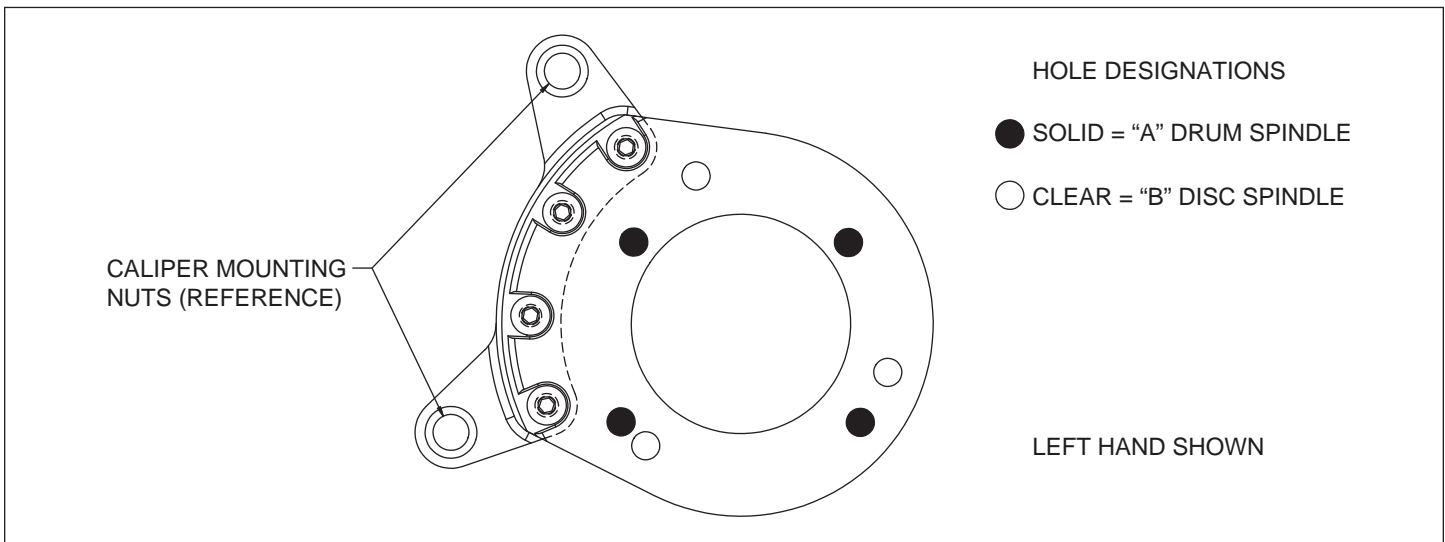
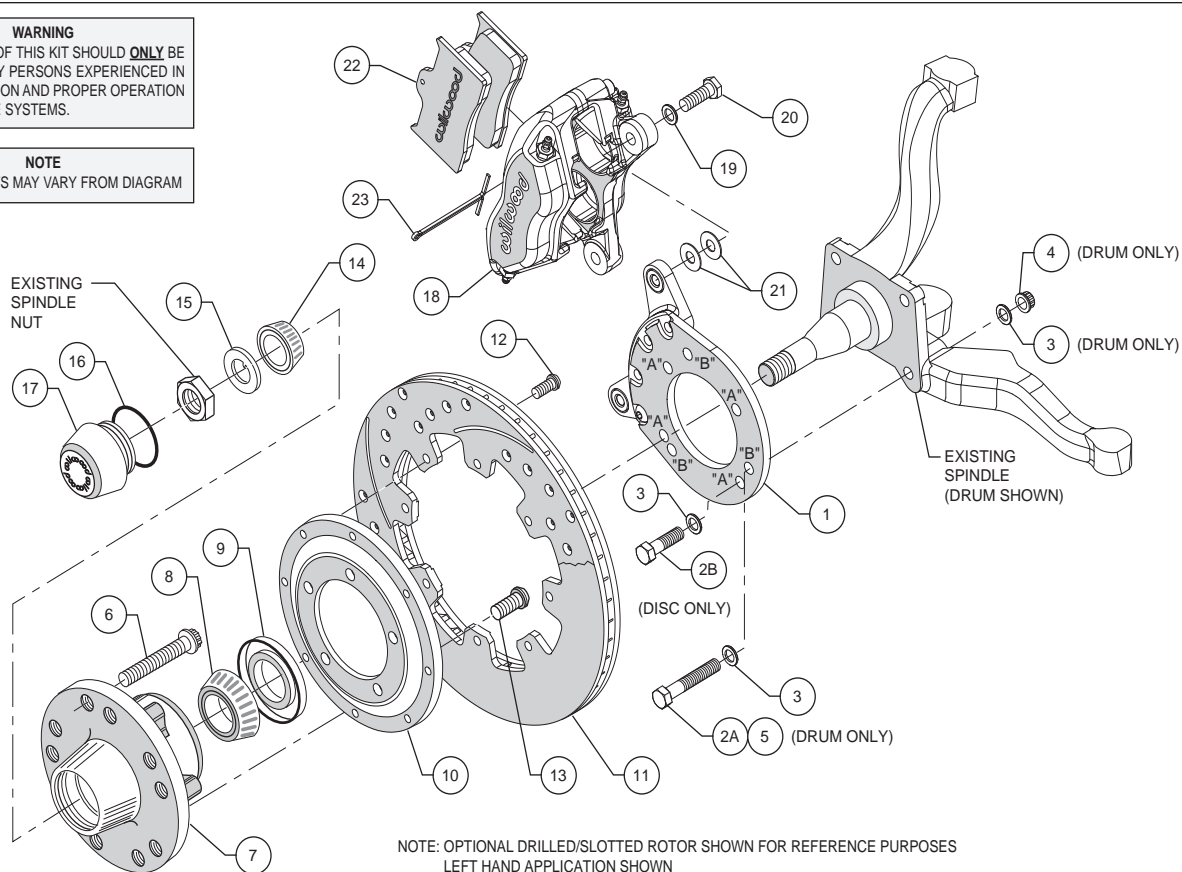
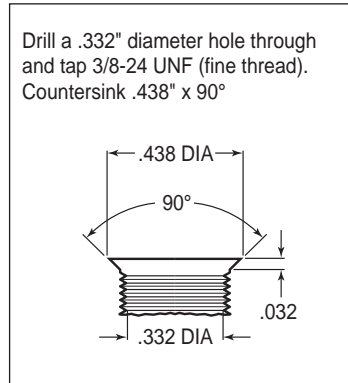
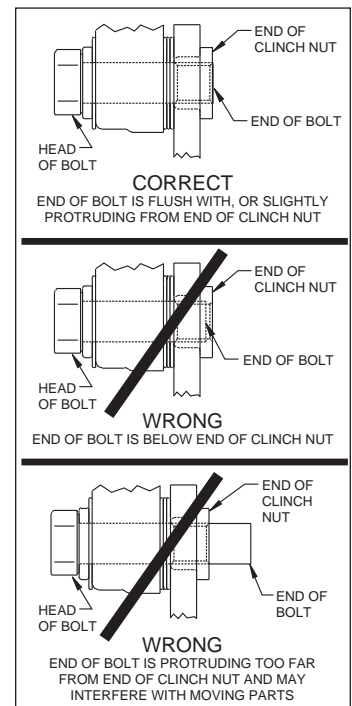

Figure 1. Wilwood Caliper Mounting Bracket
Figure 2. Typical Installation Configuration
Figure 3. Drill and Tap Detail
Figure 5. Clinch Nut Engagement Diagram
This kit has been designed for use with both the disc brake or the drum brake configuration of vehicle. The only difference is in how the Wilwood caliper mounting bracket is installed. The same bracket is used for both configurations; the disc brake version utilizes three mounting holes while the drum brake application uses four mounting holes (see Figure 1). For your convenience we have supplied bolt kits for both applications (see parts list and Figure 2 as necessary). Use the bolt kit that is applicable to your vehicle and disregard the other one.
NOTE: This modification should be performed by a qualified machinist and completed before assembly of the Wilwood disc brake kit begins. Using the caliper mounting bracket as a template (refer to Figure 1 as necessary), locate and verify the three original holes on the spindle that need to be modified. Drill a .332" diameter hole through all three holes, then tap 3/8-24 UNF (fine thread). Countersink the holes to .438" diameter x 90°, as shown in Figure 3.
Assembly Instructions (numbers in parenthesis refer to the parts list, and Figure 2 on the preceding pages): **CAUTION:** All mounting bolts must fully engage clinch nuts. Be sure to check that all bolts are either flush or protruding through flanged side of clinch nut after shimming, Figure 5.
•**NOTE:** This kit uses the same mounting bracket (1) for both the drum and disc brake spindles. The drum version, Photo 1 uses four mounting bolts (designated "A"), while the disc version, Photo 2, uses three (designated "B"). Refer to Figures 1 and 2 for the basic installation position of the bracket and the "A" and "B" reference designations (not physically marked on the brackets).
For Drum Spindle: Align bracket, using the four "A" holes, to the face of the spindle and attach using bolts (2A and 5), washers (3), and lock nuts (4), as shown in Figure 2. Ensure that the flanged heads of the clinch nuts in the bracket are facing outboard, Photo 1. Torque nuts to 30 ft-lb.
For Disc Spindle: Align bracket, using the three "B" holes, to the face of the spindle and attach using bolts (2B) and washers (3), as shown in Figure 2. Finger tighten. Ensure that the flanged heads of the clinch nuts in the bracket are facing outboard, Photo 2. Remove bolts one at a time, apply red *Loctite*® 271 to threads, and torque to 40 ft-lb.
- Pack the large inner bearing cone (8) with high temperature disc brake bearing grease (available from your local auto parts store) and install into the backside of the hub (7), Photo 4.
- Install the grease seal (9) by pressing into the backside of the hub (7), flush with the end of the hub, Photo 4.
- Orient the rotor (11) and the rotor adapter (10) as shown in Figure 2 and Photo 5. Attach the rotor to the adapter using bolts (12). Using an alternating sequence, apply red *Loctite*® 271 to the threads, and torque to 25 ft-lb.
- Mount the adapter/rotor assembly (10/11) to the hub (7) using bolts (13), as shown in Figure 2 and Photo 6. Using an alternating sequence, apply red *Loctite*® 271 to the threads, and torque to 55 ft-lb.
- Pack the small outer bearing cone (14) with high temperature disc brake bearing grease and install into hub (7). Slide the hub/rotor assembly onto the spindle. Secure using spindle washer (15) and OEM spindle nut, Photo 7. Adjust bearings per OEM specifications. Install saved OEM nut lock (if any) and a new cotter pin (not included).
- Screw dust cap (17) into hub (7), Photo 8. Friction created by the o-ring (16) on the dust cap keeps it from unscrewing. **NOTE:** The O.D. of the existing OEM spindle washer may be larger than the I.D. of the dust cap not allowing it to seat against the hub face. Therefore, use the spindle washer (15) supplied with the kit instead of the OEM washer.
- NOTE:** Please reference the caution statement at the beginning of the assembly instructions. Mount the caliper (18) onto the caliper mounting bracket (1) using bolts (20) and washers (19), as shown in Figure 2. Initially place two .035" thick shims (21) on each bolt between the caliper and the bracket, Photo 9. Temporarily tighten the mounting bolts and view the rotor (11) through the top opening of the caliper. The rotor should be centered in the caliper, Photo 10. If not, adjust by adding or subtracting shims between the bracket and the caliper. Always use the same amount of shims on each of the two mounting bolts. **NOTE:** The end of each bolt must be flush with or slightly protruding from the head of the clinch nut, as shown in Figure 5. If necessary place spare shims between washer (19) and caliper mounting ear to achieve the proper clinch nut engagement. Once the caliper alignment and clinch nut engagement are correct, remove the bolts one at a time, apply red *Loctite*® 271 to bolt threads, and torque to 40 ft-lb.
- Install the disc brake pads (22) into the caliper, with the friction material facing the rotor (11), and secure in place using cotter pin (23), Photo 11.